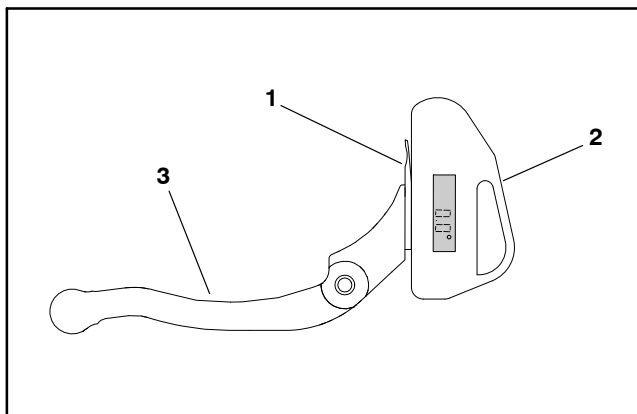

Figure 10
1. Place the angle indicator on the bottom side of the bedknife with the digital display facing you as shown (Fig. 10).